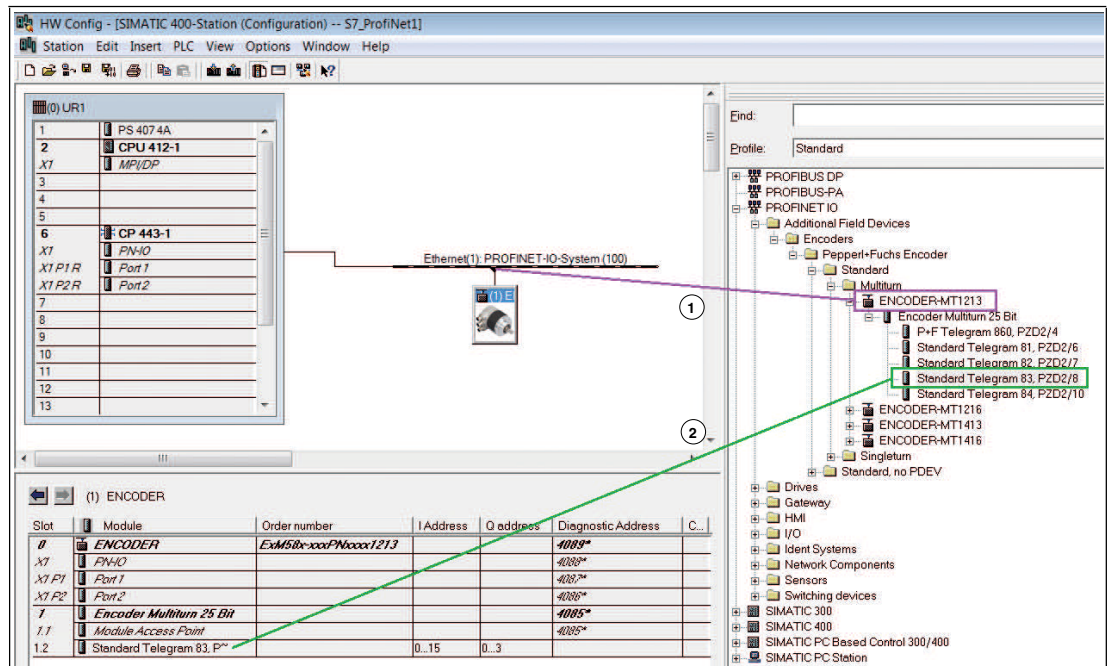

Figure 8.2
1. Double-click the encoder icon → see Figure 8.2 on page 31 to set the communication parameters used by the PLC.